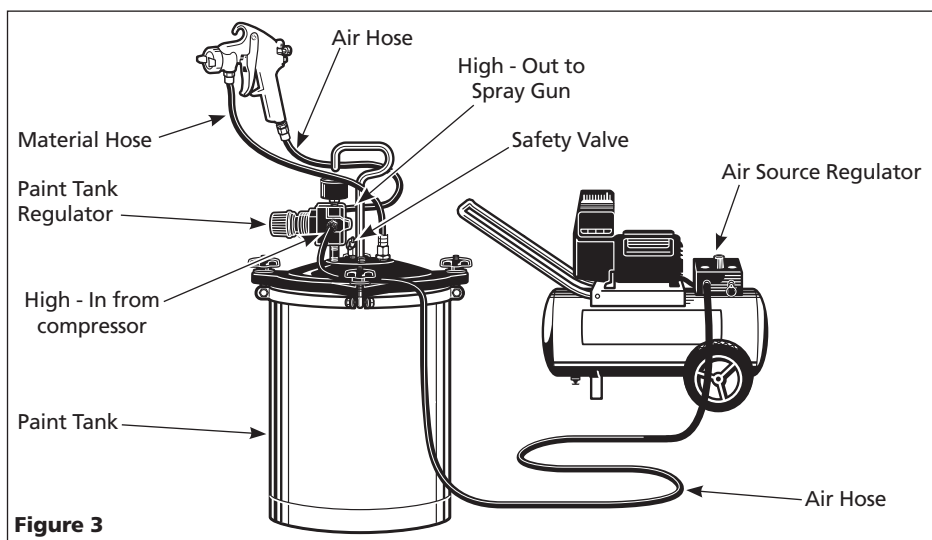

Figure 3
The proper connections to make when using a pressurized paint tank are as illustrated in Figure 3. Refer to the instructions supplied with the paint tank for connections and usage. **DO NOT USE A PAINT TANK WITHOUT READING THOSE INSTRUCTIONS.**
8. Pressure/siphon valve knob must be pushed to siphon (vent) mode when using a pressurized paint tank connected as shown in Figure 3. This will prevent pressurized air from escaping out of the canister pressure valve port when the canister is not used.